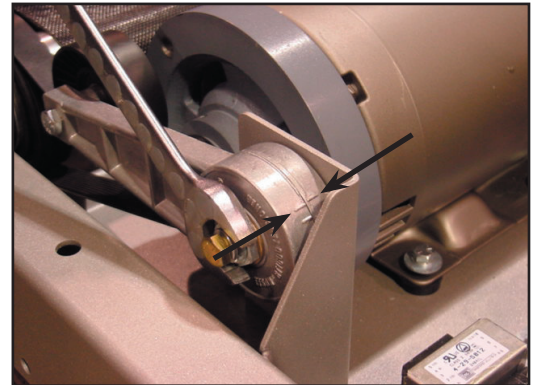

Figure 16: First pair of notches
- 4.5 Place a 15/16 open end wrench on the large nut of tension wheel, than turn counterclockwise to adjust the tension notch evenly with first notch on the left side of the wheel and hold (see Figure 16).